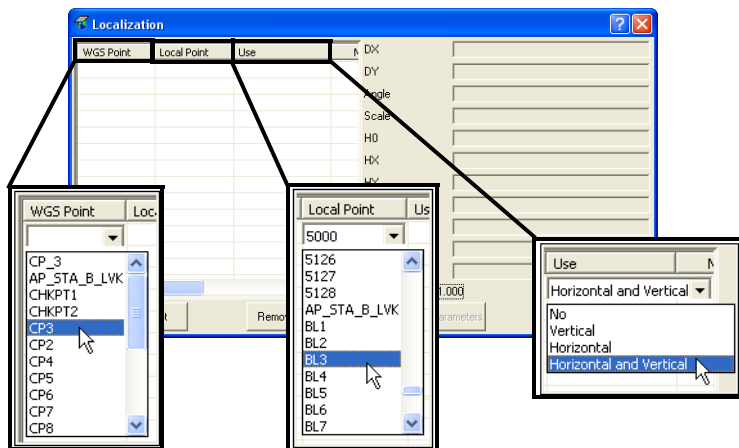

Figure 6-39. Select WGS, Local Point, and Use Data
3. Select the following information (Figure 6-39):